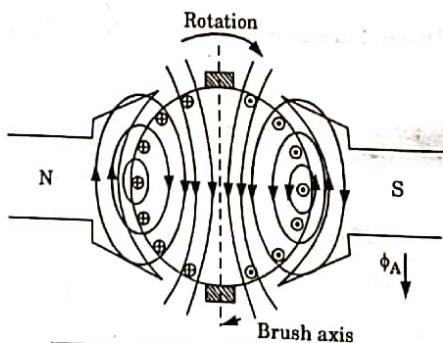

Fig. 2.9.2. Armature flux distribution.
4. Fig. 2.9.2 shows armature conductors carrying current with no current in field coils. The current flows in the same direction in all the conductors lying under one pole.
5. The conductors on the left-hand side of the armature carry current in the direction into the paper. The flux produced by current in these armature conductors is shown in Fig. 2.9.2. These conductors combine their mmfs to produce a flux through the armature in the downward direction.
7. Thus, the conductors on both sides of the armature combine their mmfs in such a manner as to send a flux through the armature in the downward direction. This flux  $\phi_A$  is represented by an arrow as shown in Fig. 2.9.2.